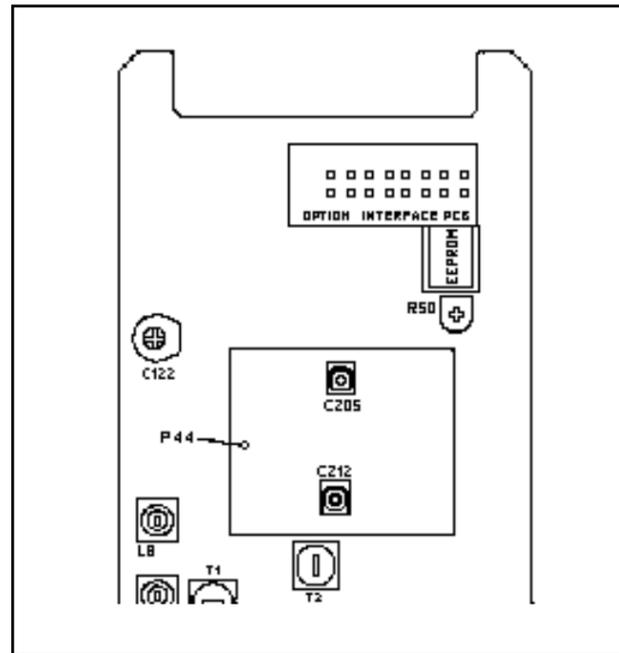

Figure 3 - EEPROM Removal
6. Locate and carefully remove the optional Channel Guard printed circuit board (see Figure 3 for location).